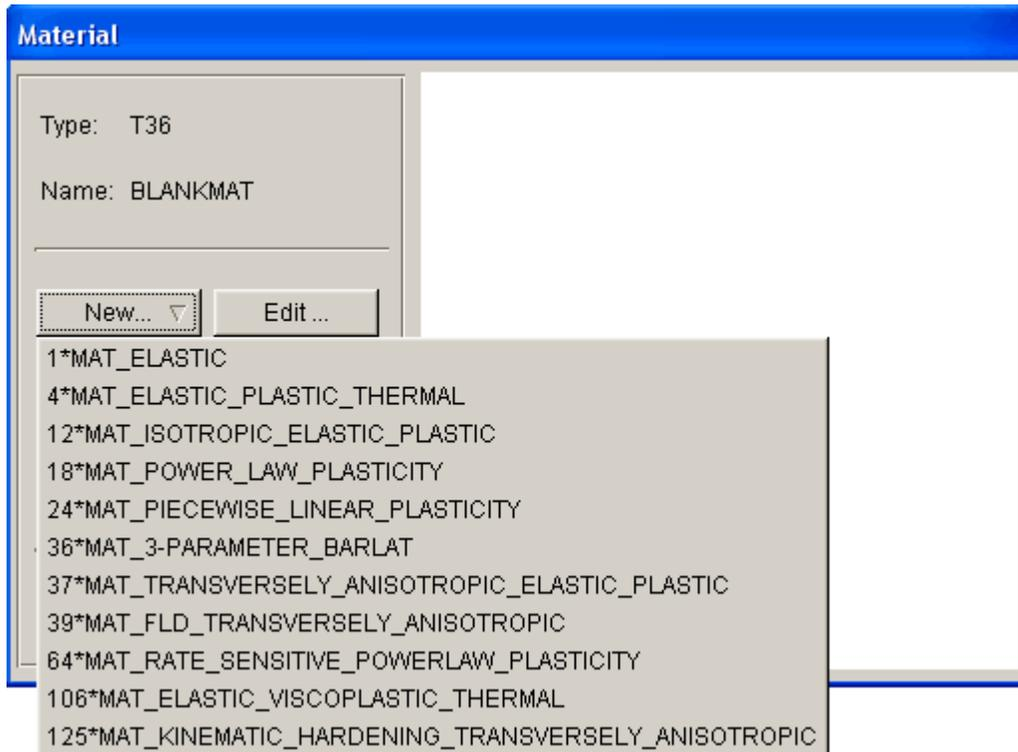
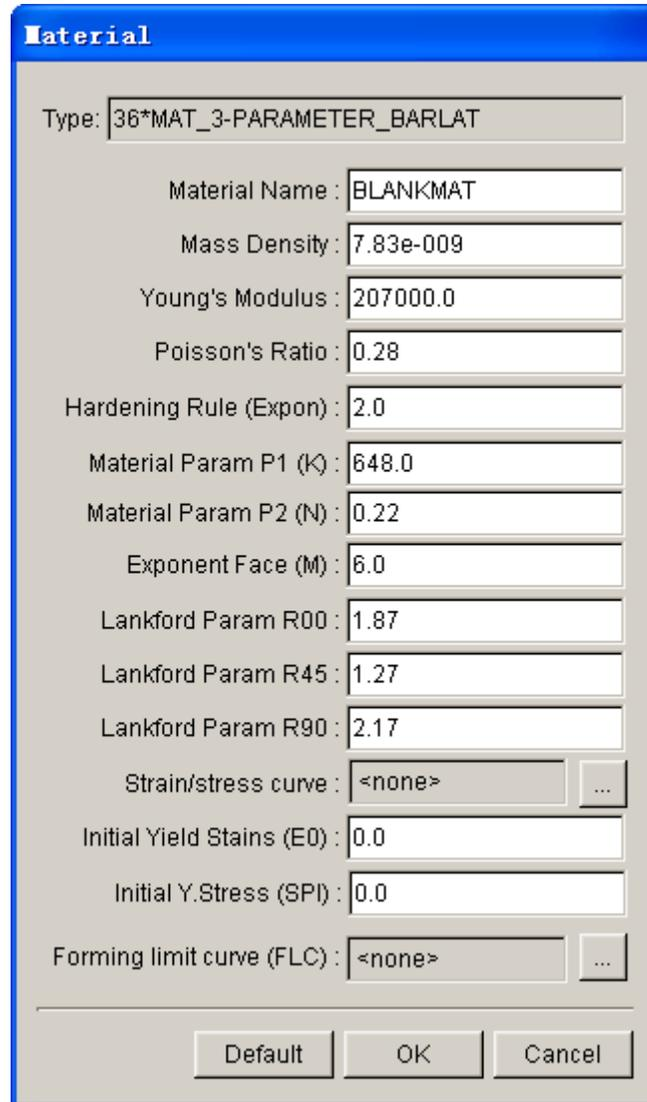

Figure 8.2.20 Select material type
Figure 8.2.21 Material dialog box
**NEW...:** Allow the user to create new blank material. After clicking this button, the list of material types illustrated in Figure 8.2.20 is displayed. The user may select one of the material types from the list. Once a material type is chosen, the MATERIAL dialog box illustrated in Figure 8.2.21 is displayed.